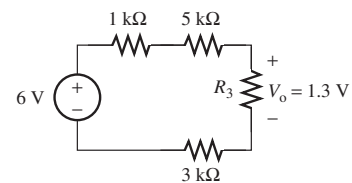

FIGURE P3.24 Circuit for Problem 3.24.
3.24 (A) Given V_0 , find R_3 in Figure P3.24.